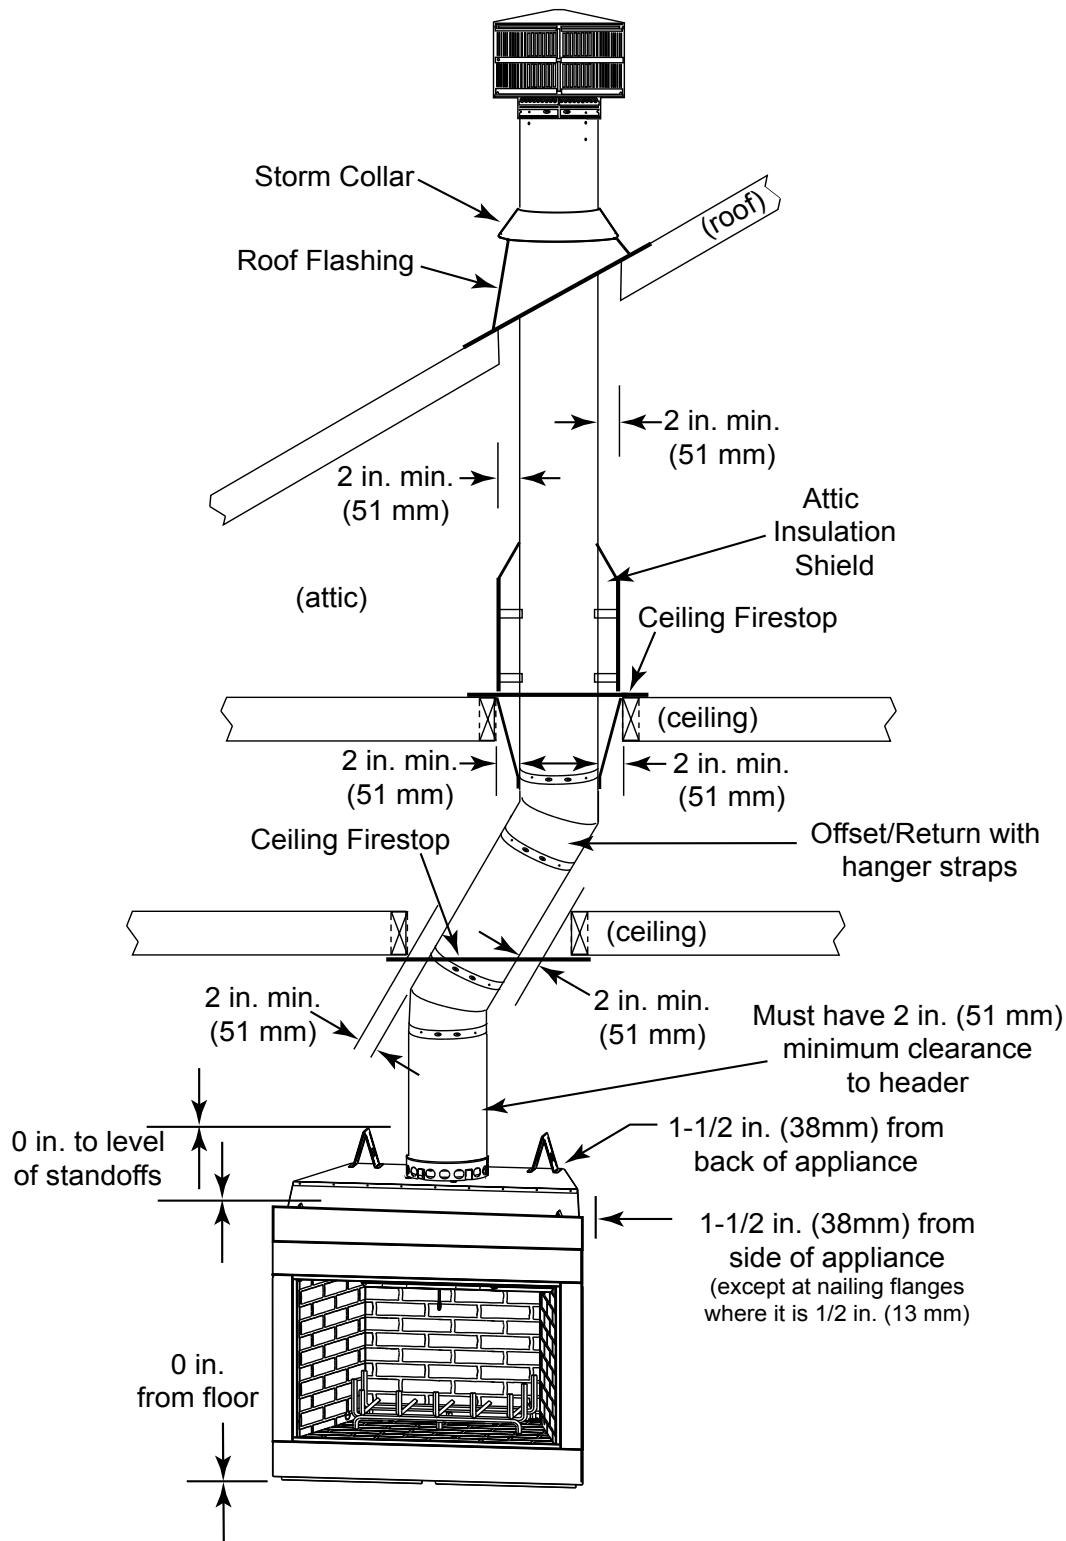

Figure 6.2 Air Space Clearances
**WARNING! Risk of Fire!** You must comply with all minimum air space clearances to combustibles as specified in Figure 6.2. **DO NOT** pack required air spaces with insulation or other materials.